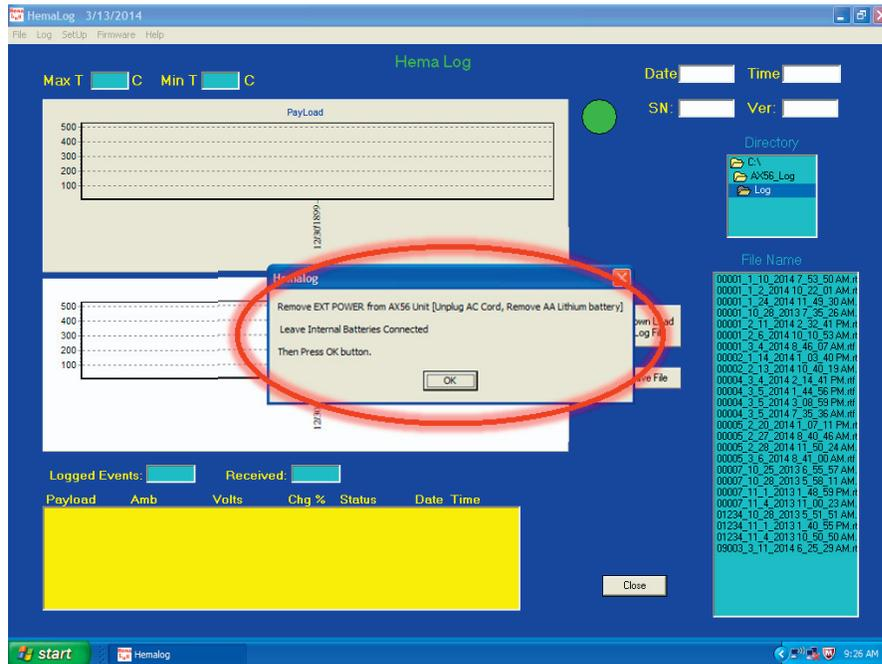

Figure 54. Remove All Power
2. Remove AC and external power from the AX56L unit (Figure 54).